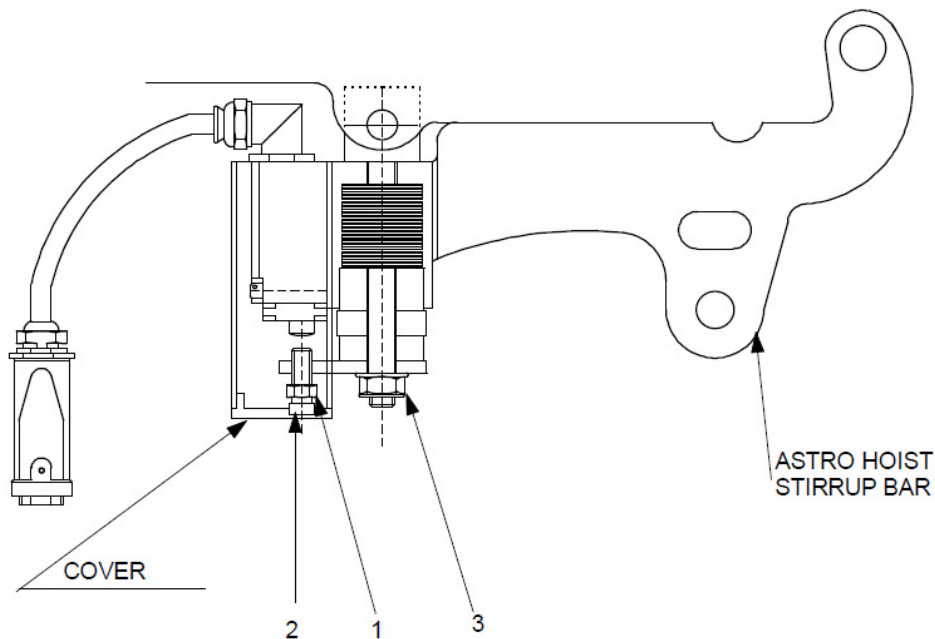

Figure 5
3. Remove cover shown in figure 5.
4. Release lock nut (1) (figure 5).
5. Turn Allen® screw (2) (figure 5) clockwise (upwards) to decrease the overload setting. Turn Allen® screw (2) (figure 5) anti-clockwise (downwards) to increase the overload setting.
7. Fit back the cover shown in figure 5.
- Make sure nut (3) (figure 5) on Overload shaft is secure before attempting Overload adjusting and testing.